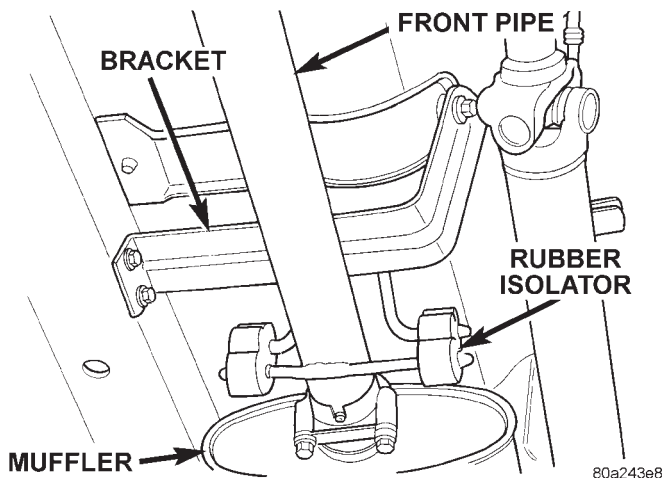

Fig. 3 Front Pipe to Muffler
- (4) Remove the clamp nuts at muffler (Fig. 3). To remove the exhaust pipe from the muffler, apply heat until the metal becomes cherry red. Disconnect the exhaust pipe from the muffler. Remove the exhaust pipe.